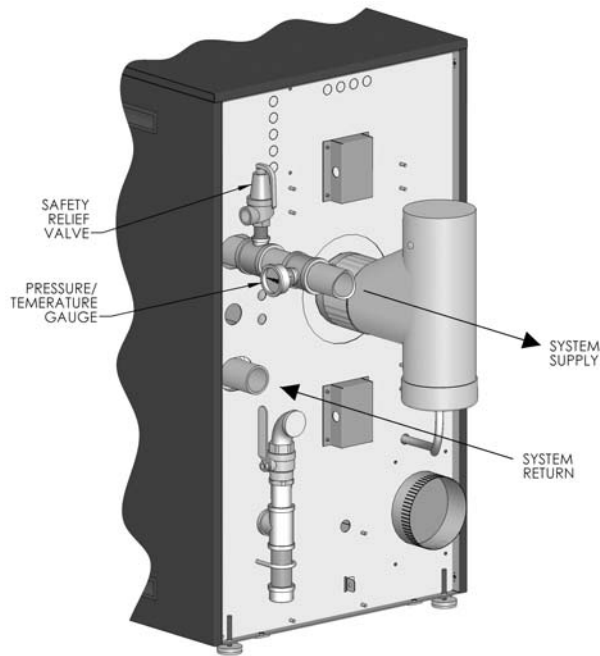

Figure 4.2: Relief Valve and Pressure/Temperature Gauge Installation
1. *Pressure/Temperature Gauge*: A combination pressure/temperature gauge is provided with each *PUREFIRE*® boiler to be mounted in the piping from the boiler supply to the system as shown in Figure 4.2. Most local codes require this gauge.
The valve is to be installed on the boiler supply pipe as shown in Figure 4.2. Pipe the discharge of the relief valve to within 12" of the floor and close to a floor drain.